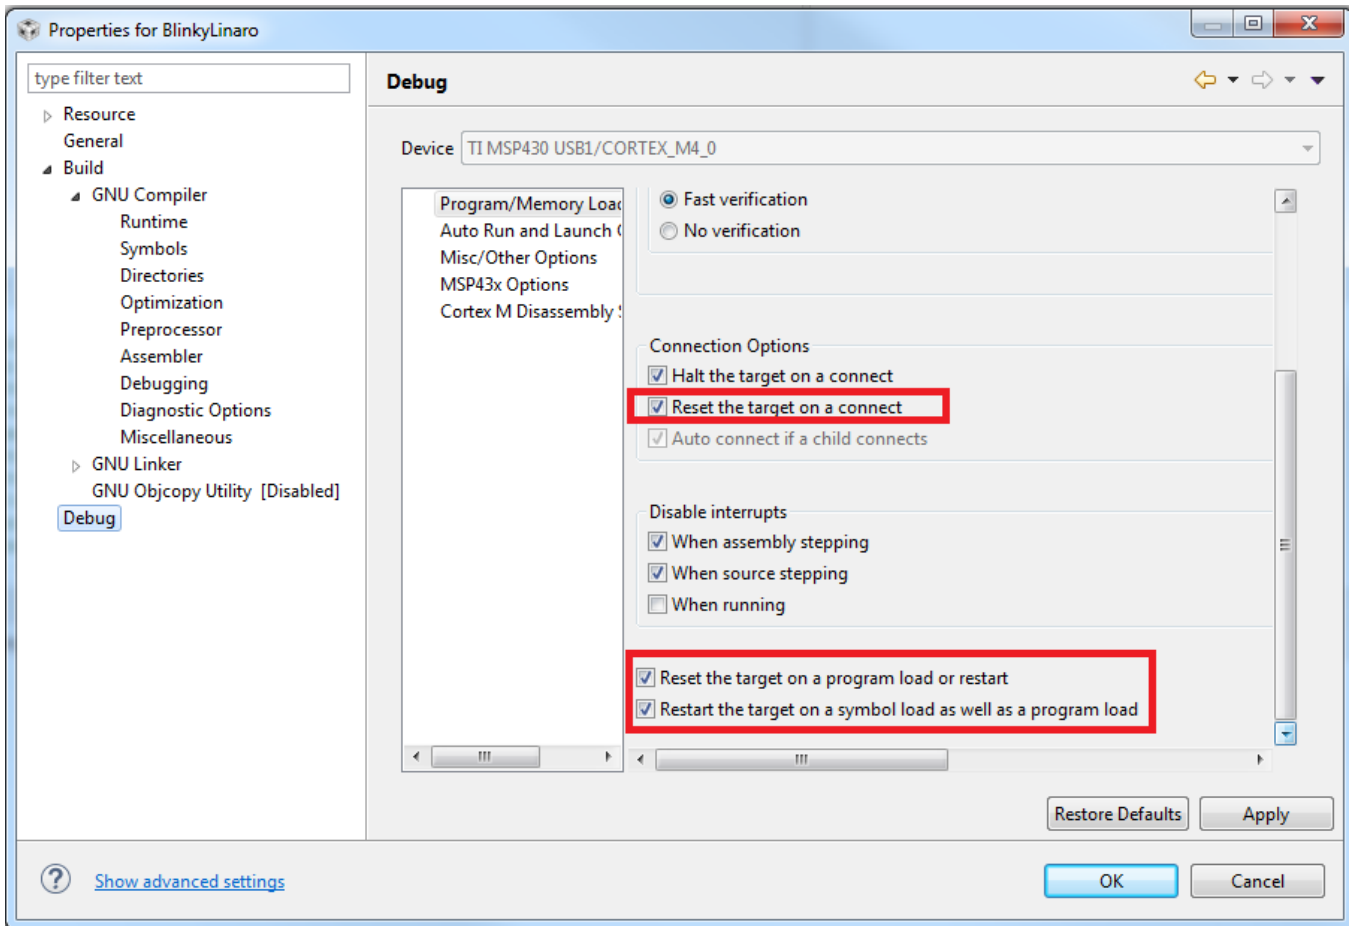

Figure 9. Debug Settings for GNU Compiler and MSP-FET
**NOTE:** Figure 9 shows the additional settings that are needed for debugging when using MSP-FET and the GNU Linaro compiler (go to project properties → **Debug** → **Program/Memory Load Options**).